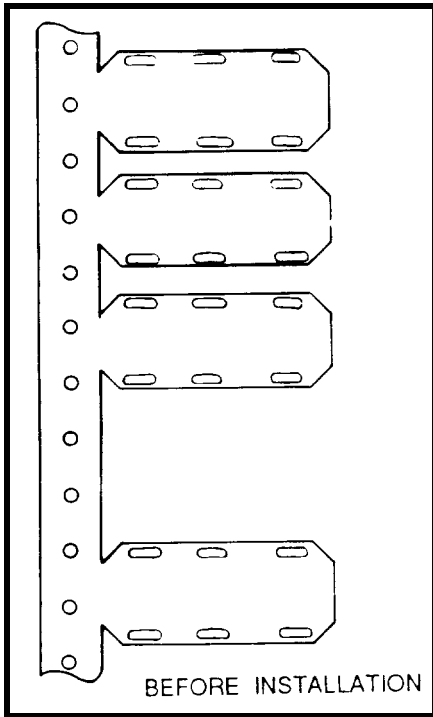

FIGURE 11-28. Cable markers.
(1) Select the smallest tie-down strap that will accommodate the outside diameter of the cable. (See table 11-22.)
(2) Cut the marking plate from the bandolier. (See figure 11-28.)